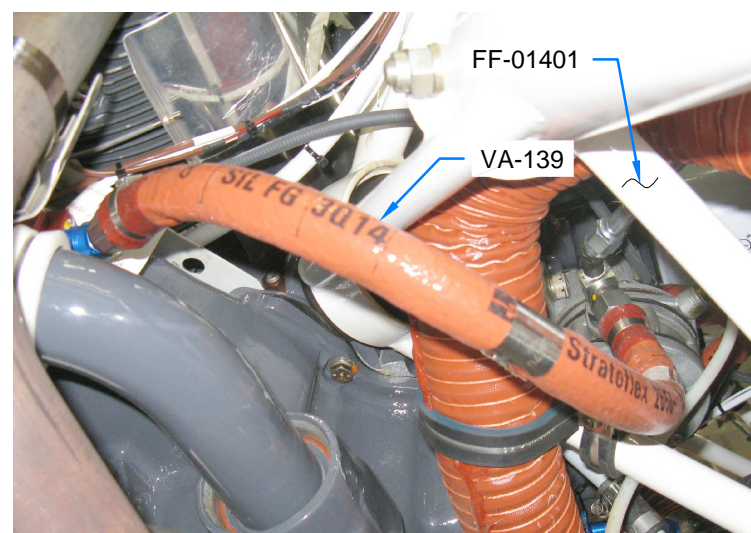

FIGURE 2: FUEL HOSE ROUTING
Step 2: (Tail Dragger) Route the VA-139 Hose through the FF-01401 Engine Mount as shown in Figure 2.